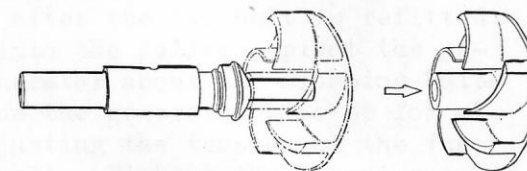

Fig. 7-5
- (4) Remove the impeller from the shaft. (See Fig. 7-5)
- (5) Remove the seal unit and thrower from the shaft.
- (6) The bearing unit is provided with sealed-in grease and integrally connected with the shaft and hence it can not be dismantled.